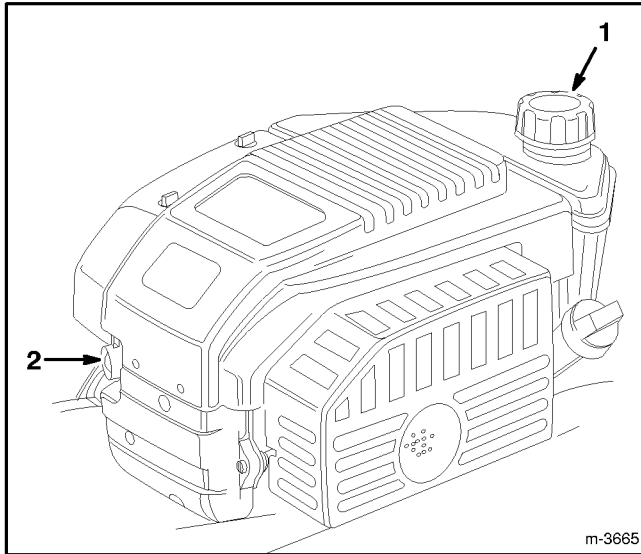

Figure 10
1. Clean around fuel tank cap (Fig. 10) and remove cap from tank. Do not fill tank full. Using unleaded gasoline, fill fuel tank to within 6 to 13 mm (1/4 to 1/2 inch) from top of tank, not into the filler neck.
4. Push primer three (3) times (Fig. 10). **Wait about two (2) seconds between each push.**